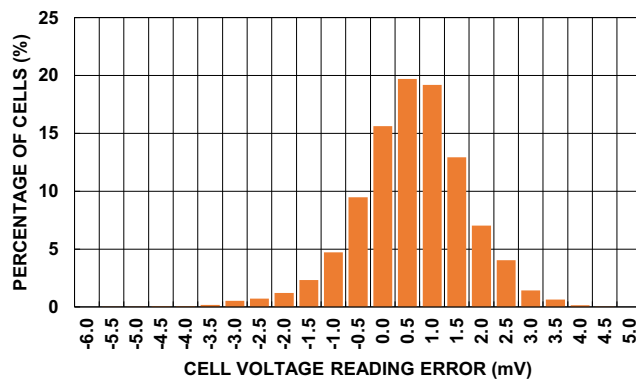

Figure 6. Cell Voltage Accuracy Histogram
- Stresses may be induced in the ISL78600 during soldering or other high temperature events that affect measurement accuracy. Initial accuracy does not include effects due to this. See Figure 6 on page 21 for cell reading accuracy obtained after soldering to Renesas evaluation boards. When soldering the ISL78600 to a customized circuit board with a layout or construction significantly differing from the Renesas evaluation board, design verification tests should be applied to determine drift due to soldering and over lifetime.